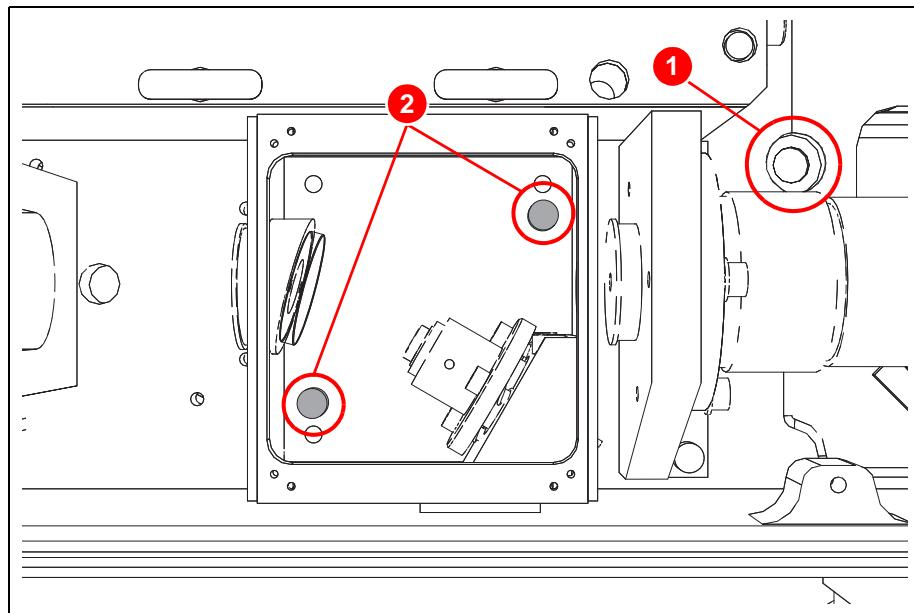

Figure 3.28 Positioning laser – 2
5. Remove the connecting plug on the positioning laser (-X38) (1) (Figure 3.28).
6. Unfasten the fastening screws (2) on the positioning laser housing; remove the housing from the alignment pins.